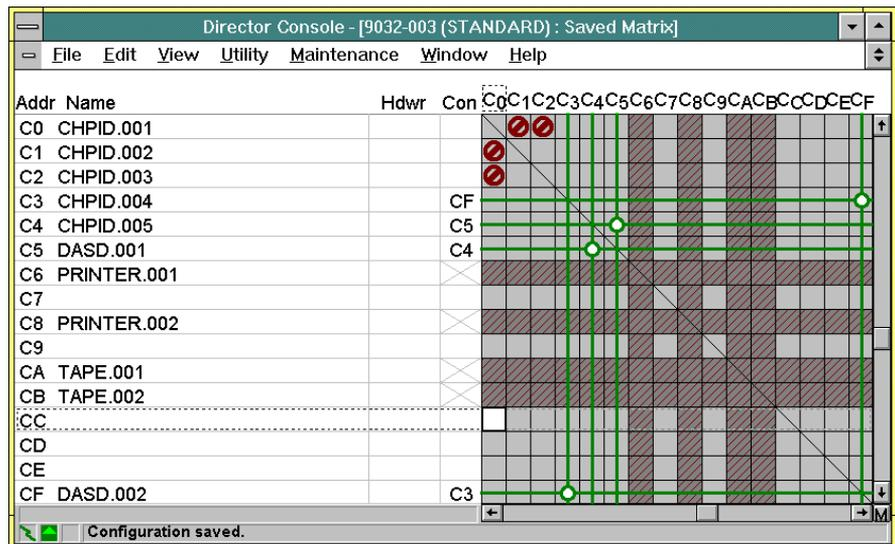

Figure 143. Matrix Window (All Attributes Saved)
17. Select the *Save Configuration Matrix* option from the *File* menu. The *Operator Authorization* dialog box appears. Type an operator authorization password (default is **LEVEL003**) and click the *OK* button. The *Save Configuration Matrix As* dialog box appears. Enter a name for the new matrix (**STANDARD** is used in the example) and select the *OK* button. Figure 143 displays the matrix as it is now configured.
- The *Active Matrix* for the selected Director appears with the port attributes established in this example (identical to those displayed in Figure 143).